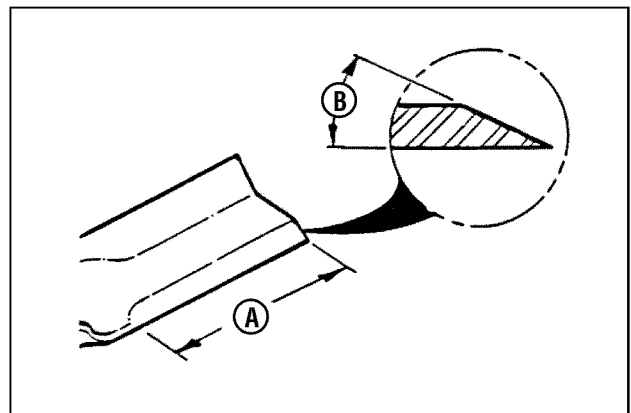

Figure 44: Sharpening the mower blade
6. If the blade is in good condition, sharpen at 22 to 28 degrees (**B, Figure 44**). DO NOT sharpen beyond existing cutting edge (**A**).